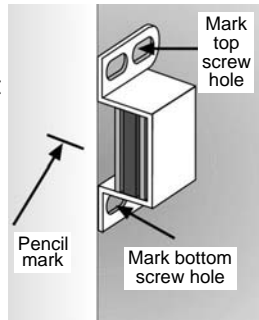

Figure 6
- D. Open the Wardrobe Door (#1) and step into the doorway. Position the Magnetic Catch (#4) so that the magnets are facing out, flush with the face of the wall and centered on the pencil mark as shown in Figure 6.